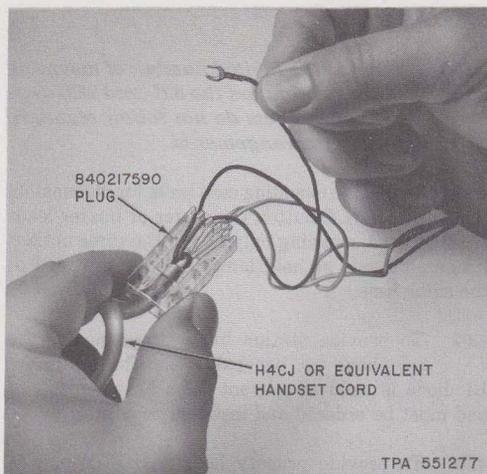

Fig. 5—Installing Spade-Tipped Handset Cords
3.12 Installing Spade-Tipped Handset Cords in Early Production Sets (Fig. 5) Equipped With G12A Handset: To install spade-tipped handset cord (H4CJ or equivalent) remove P-376819 J Hook Stayband from the cord. Cut back and remove cord sheath to stayband marks. Thread spade-tipped conductors through plug 840217590 (spade tips must be bent to clear cord entrance). Pull cord until about 1/4-inch of cord sheath is in the central cavity of the plug. Separate the conductors into two groups and tie an overhand knot, pulling the knot to the cord sheath. Pull cord from plug until strain relief position is attained by knot entering sheath and resting against plug. Feed spade-tipped conductors straight through jack P-22F620 and connect to proper terminals. Insert plug in jack.